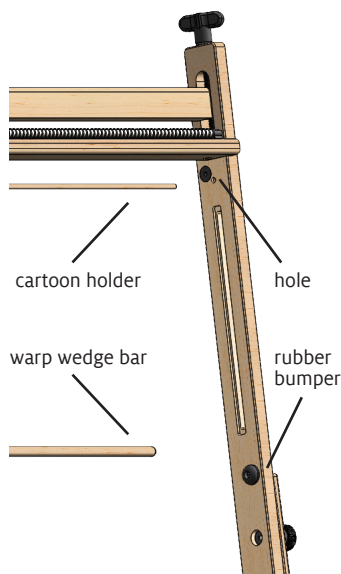

**FIGURE 7: ATTACH THE LEGS**
**7. Attach the legs:** Orient the left leg with the rubber feet at the bottom of the loom, the leg extension at the back and facing the inner side of the loom, and the preattached knob facing out (Figure 7). Insert a round plastic knob through the wider side of a nylon T-nut slide, then through a 3/8" USS metal washer, then through the slot in the left leg from its outer side. Align the knob shaft with one of the bottom holes in the left upright, then tighten the knob into the hole. Repeat with a second plastic knob, nylon T-nut slide, and 3/8" USS metal washer, inserting the knob through the same slot and into the other bottom hole.